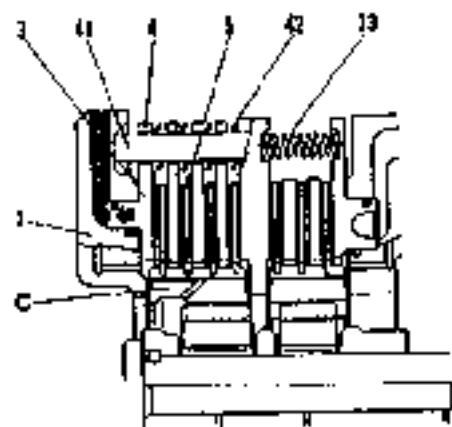

Fig. 2-17 Clutch disengagement
Clutch disengagement is realized when pressurized oil cut off and recoil spring(33) pushes piston(3) back to original place. (See Fig. 2-17). The disc spring(12) acts for speeding the piston(3) back to improve disengagement of disks and plates.